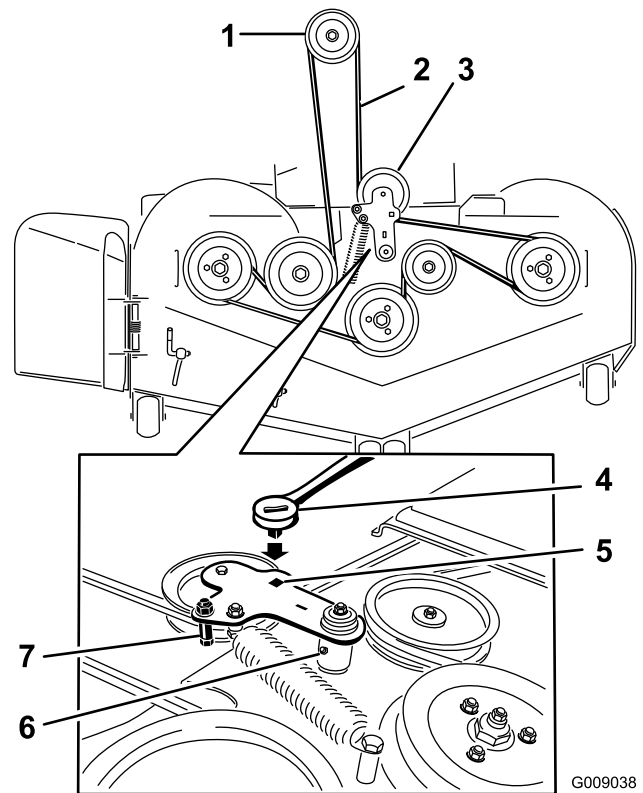

Figure 81
10. Install the belt guide on the idler arm shown in Figure 81.
11. Using the ratchet in the square hole, install the idler spring (Figure 81).
5. Use a ratchet in the square hole in the idler arm to remove tension on the idler spring (Figure 81).
7. Remove the belt guide on the spring-loaded idler arm shown in Figure 81.
9. Install the new belt around the mower pulleys and the clutch pulley under the engine (Figure 81).